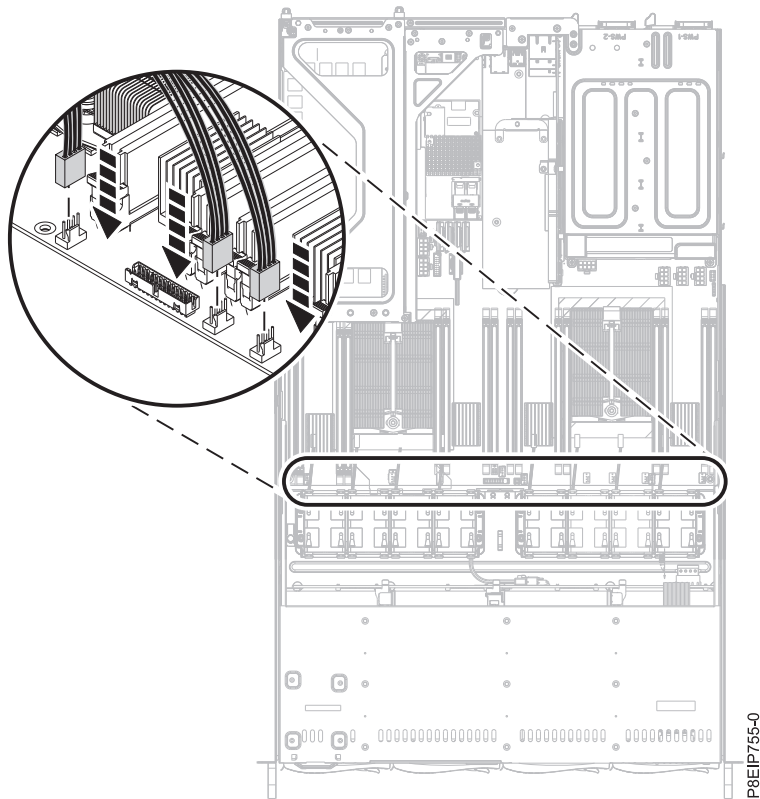

Figure 21. Replace plug
4. Connect the fan cable to the system backplane, as shown in Figure 21.